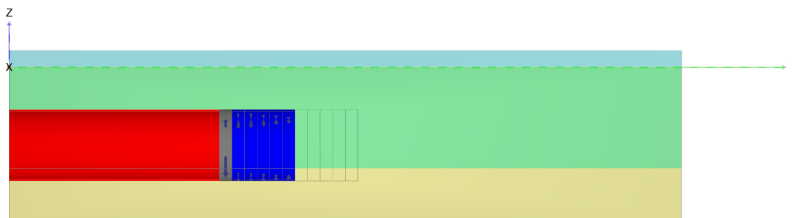

Figure 5.21 Selection of soil volumes (0 m - 25 m)
- In the draw area select the soil volumes corresponding to the lining in the first 25 m (Figure 5.21).